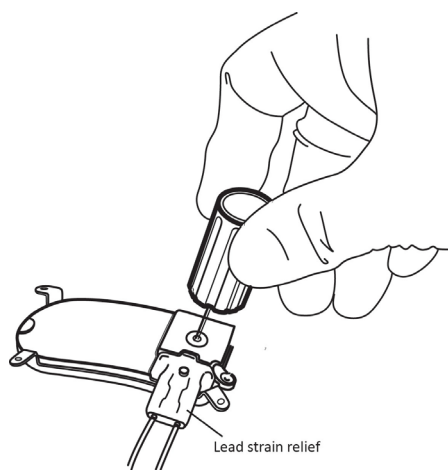

Figure 15: Secure the connector cover and leads to the RNS® Neurostimulator using the torque driver.
10. Place the lead strain relief over the proximal ends of the leads extending from the connector cover (Figure 15 on page 35) and attach it to the post.